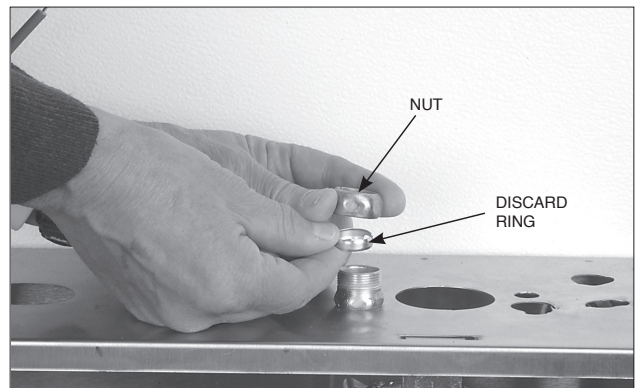

FIGURE 5-54
3. Unscrew the nut from the EMT conduit connector and remove the compression ring. Discard the ring. See Figure 5-54.